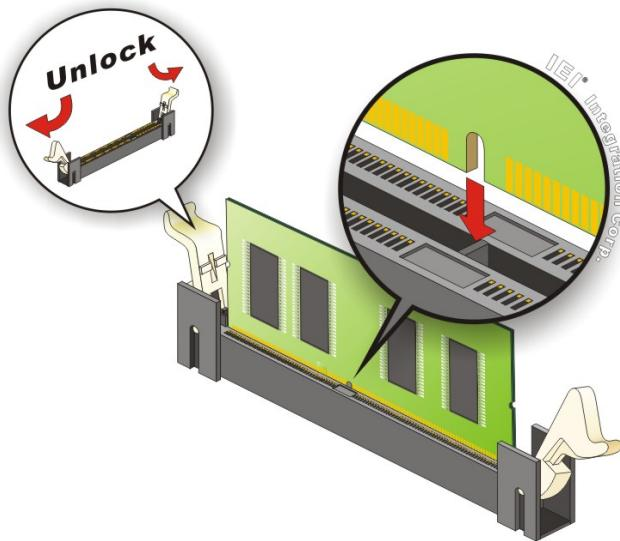

Figure 4-1: SO-DIMM Installation (DDR4)
To install a SO-DIMM, please follow the steps below and refer to Figure 4-1.
Step 1: Open the SO-DIMM socket handles. Open the two handles outwards as far as they can. See Figure 4-1.
Step 2: Align the SO-DIMM with the socket. Align the SO-DIMM so the notch on the memory lines up with the notch on the memory socket. See Figure 4-1.
Step 3: Insert the SO-DIMM. Once aligned, press down until the SO-DIMM is properly seated. Clip the two handles into place. See Figure 4-1.